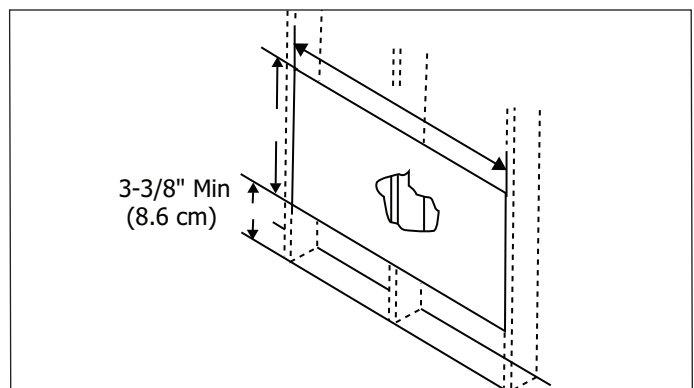

Figure 2-28.
3. Measure between inside edges of every other stud as shown. (See Figure 2-28)